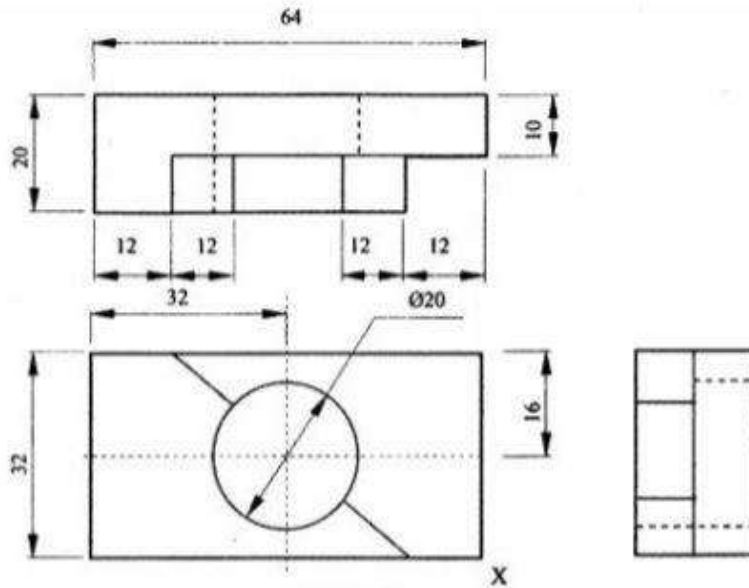

Figure 2
16. Figure 2 shows orthographic views of a machined block drawn in third angle projection.